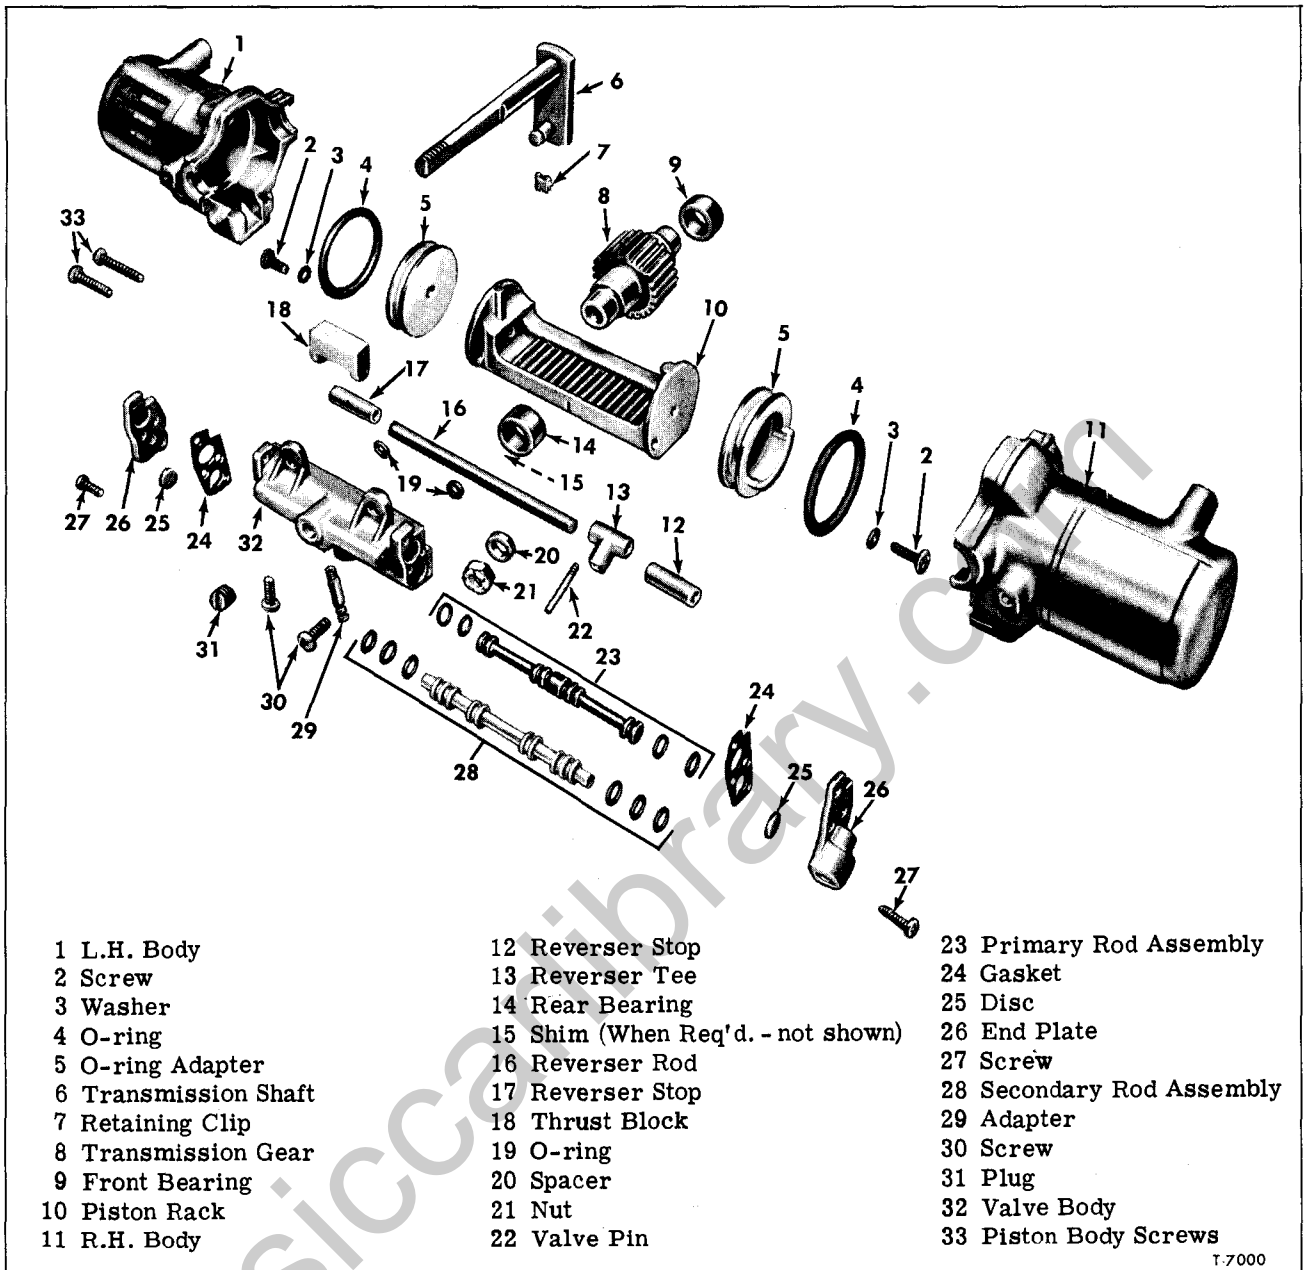

Fig. 27—Windshield Wiper Motor Components (Series 90 Alum. Tilt Cab)
A repair kit for windshield wiper motor (fig. 27) is available through an authorized Chevrolet Warehouse. Repair kit includes all parts necessary to properly service air motor.
5. Referring to figure 27, assemble tee, and reverser stops on reverser rod as shown. Position reverser rod on piston rack, then locate right and left O-ring adapters to piston rack and secure with screws. Tighten screws firmly. Install O-rings on adapters.